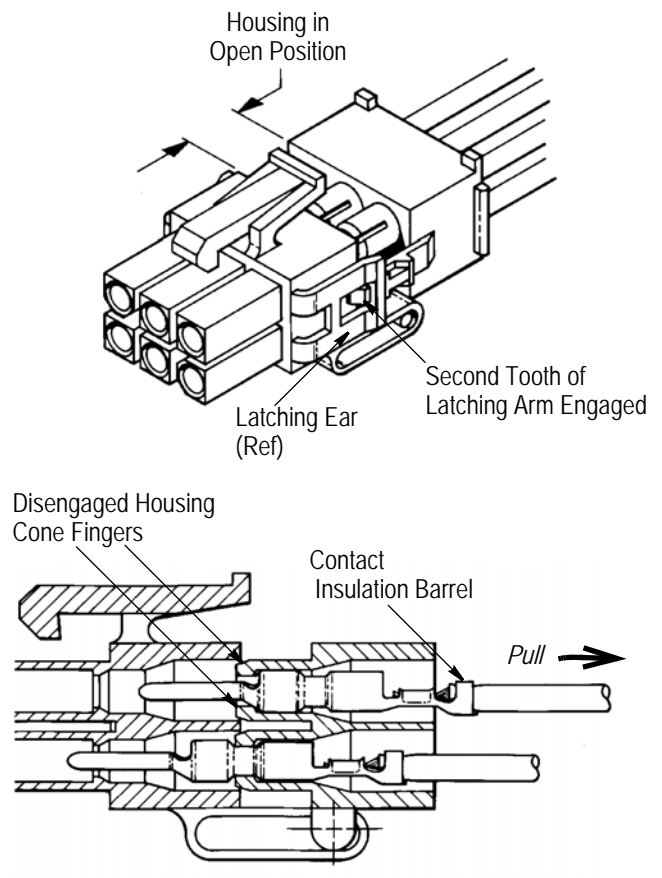

Figure 7
1. Deflect the latching ears one at a time, then lightly pull the wire end of the housing away from the housing until the first tooth of the latching arms engage. See Figure 7.
2. Grasp the contact insulation barrel and pull it using a twisting motion until the contact is free from housing. Refer to Figure 7.